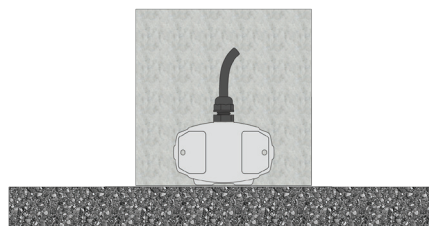

Figure 35. Compact Sensor Module Position of Calibration Step 2
6. Locate the sensor module as following Figure 35. The sensor is ready for user to perform calibration step 2